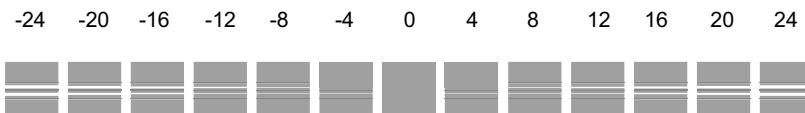

Figure 4-78. Adjustment pattern (rough adjustment)
5. Refer to Figure 4-78, and select the pattern that the white gap is the narrowest.